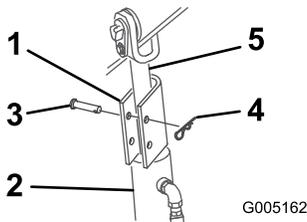

Figure 16
4. Position a cylinder lock over each lift-cylinder rod (Figure 16).
5. Secure each cylinder lock with a clevis pin and cotter pin (Figure 16).